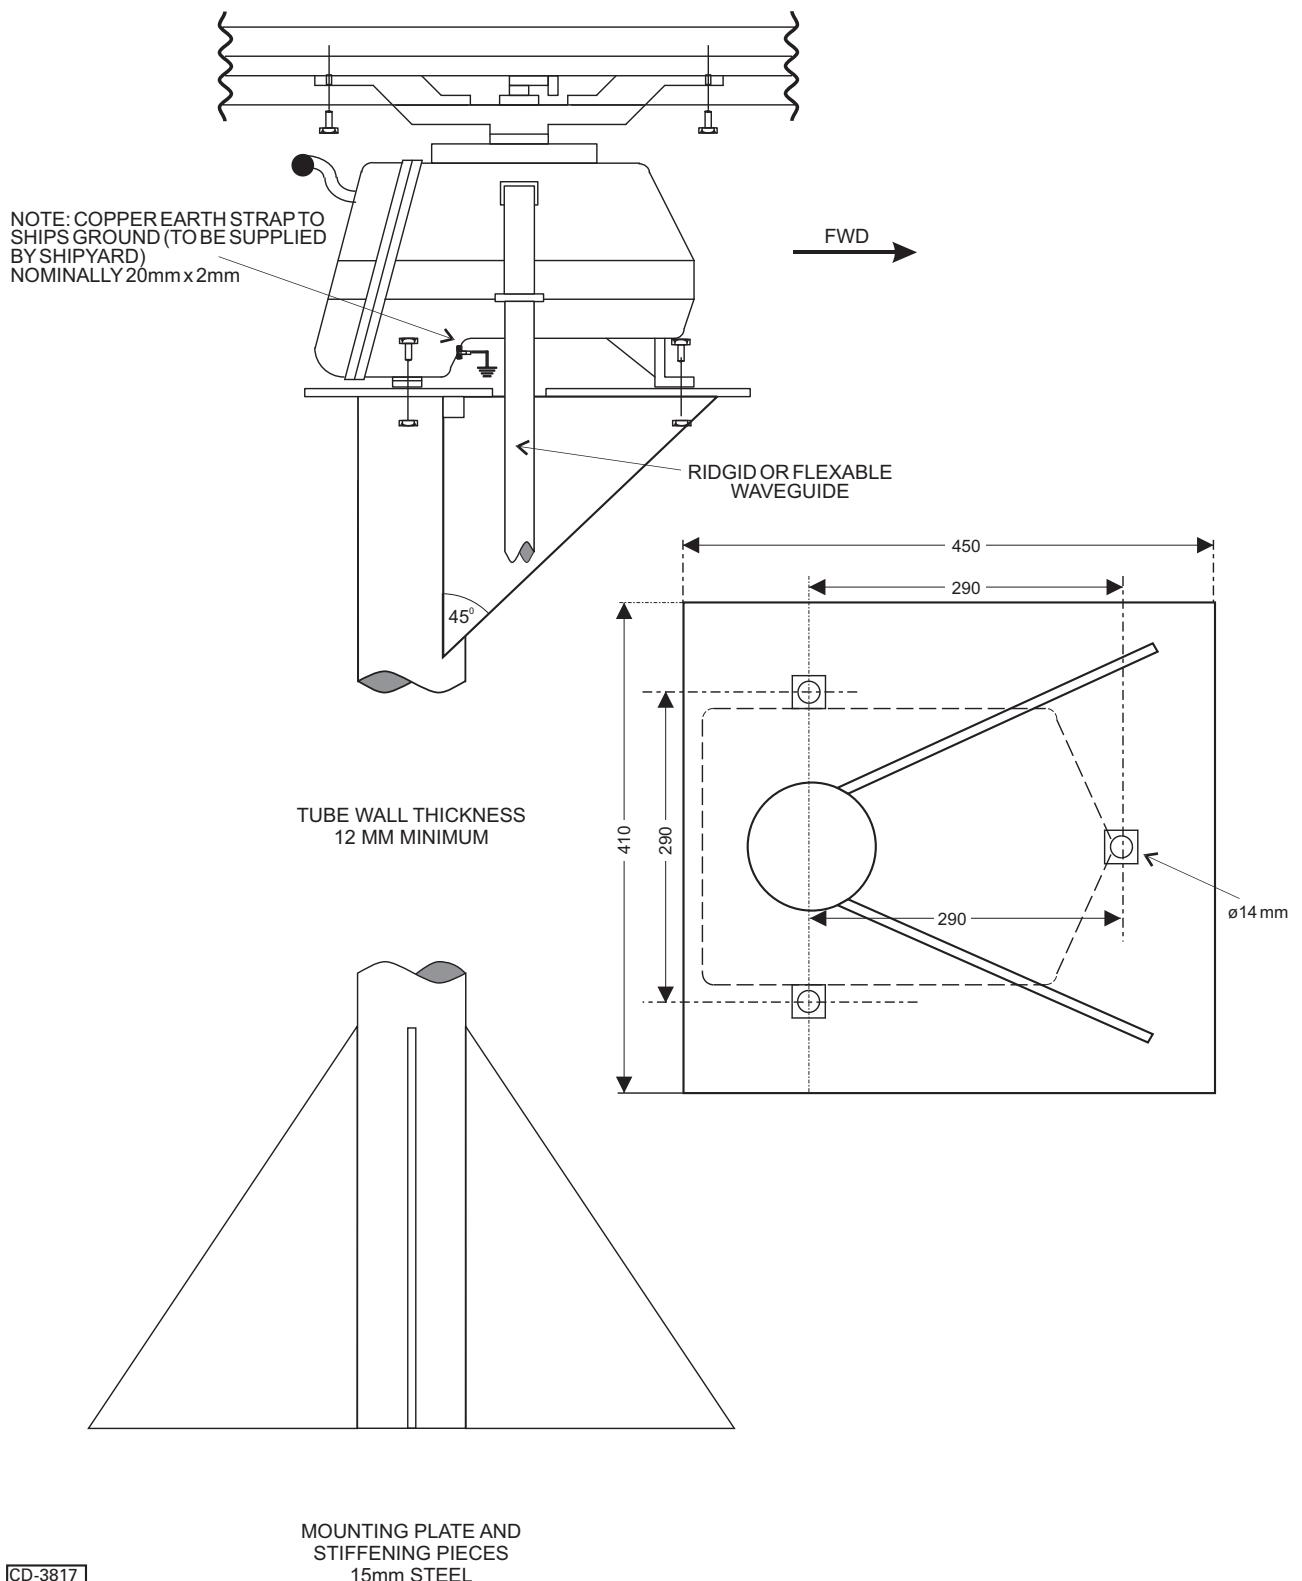

Figure 2c - Transceiver Mast Mounting
- (1) Remove the protective caps, tapes etc. Ensure the waveguide faces are clean and free from grease. Fit the appropriate 'O' ring. Fit the Antenna array to the transceiver with the eight bolts, holding it loosely in position. **DO NOT TIGHTEN THE BOLTS.** Refer to Figure 2c.
- (2) Align the waveguide from the Antenna to the Rotating Joint and fit the four waveguide bolts. Do not force the waveguide to the coupling face. Tighten the waveguide bolts evenly until the mating faces are flush. Torque load the Antenna retaining bolts to 19 to 24 Nm (14-16 lb./ft).
- (3) Hoist the Transceiver and Antenna assembly, (ensuring the slings do not foul with the Array), to the mounting plate.
- (4) Mount the Transceiver facing forward (removable cover facing aft). Fit the retaining bolts and torque load to 50lb/ft (75kg/m) then gain access to the interior by removing the rear cover.